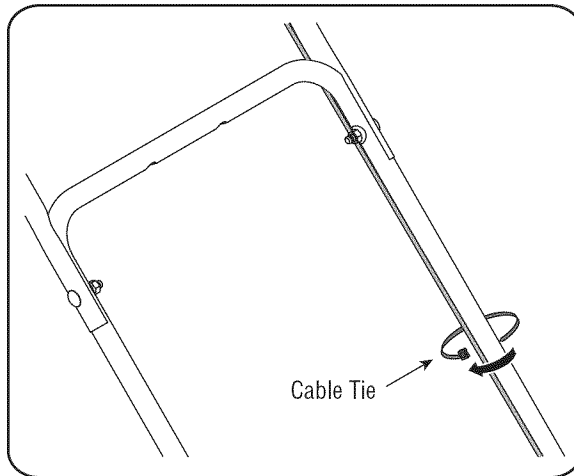

Figure 7
- Secure the cable to the lower left handle near the base of the unit with a cable tie from the hardware pack. Trim off extra length of the cable tie. See Figure 7.